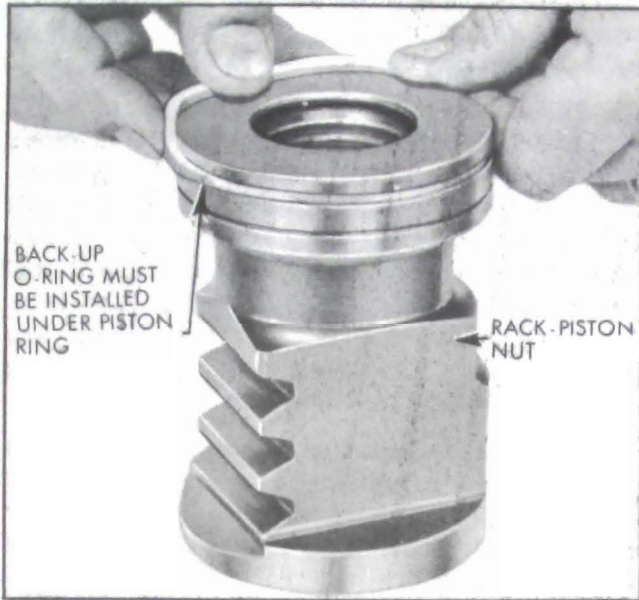

Figure 8-59—Installing Piston Ring on Rack-Piston Nut
2. Install new piston ring back-up O-ring in groove on rack-piston nut. Place a new piston ring over the back-up O-ring. See Figure 8-59.